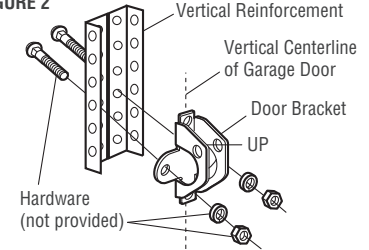

FIGURE 3
- Drill 3/16" fastening holes. Secure door bracket using self-threading screws. (Figure 3)